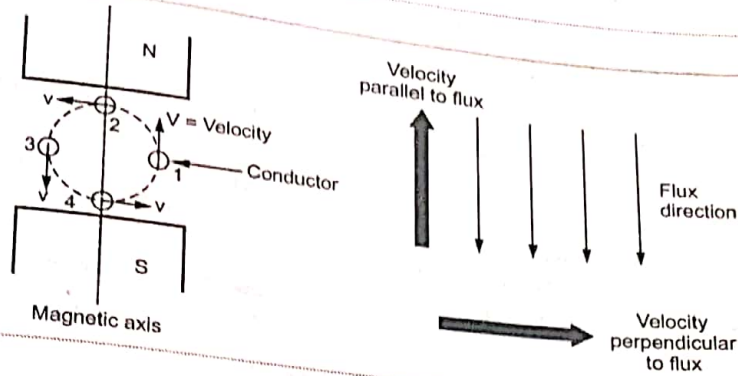

Fig. Q.72.1 Two pole alternator
- Consider a relative motion of a single conductor under the magnetic field produced by two stationary poles. The magnetic axis of the two poles produced by field is vertical, shown dotted in the Fig. Q.72.1.